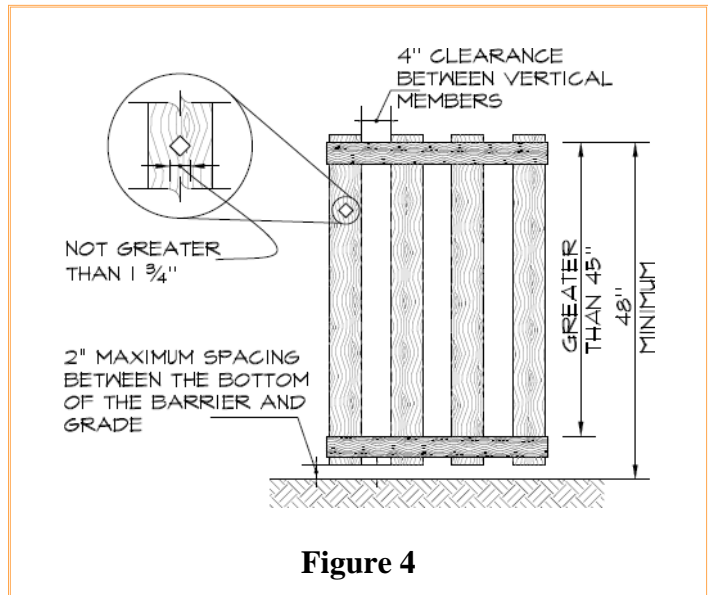

Figure 4
2. Where the barrier is composed of horizontal and vertical members and the distance between the tops of the horizontal members is *45 inches or more*, spacing between vertical members shall not exceed 4 inches. Where there are decorative cutouts within vertical members, spacing within the cutouts shall not exceed  $1\frac{3}{4}$  inches in width. **See Figure 4.**